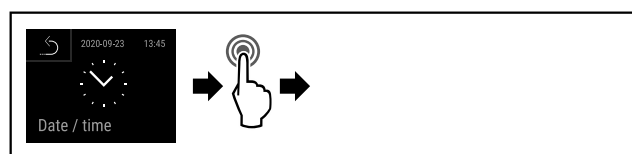

Fig. 106
- ▶ Complete steps (see Fig. 106).